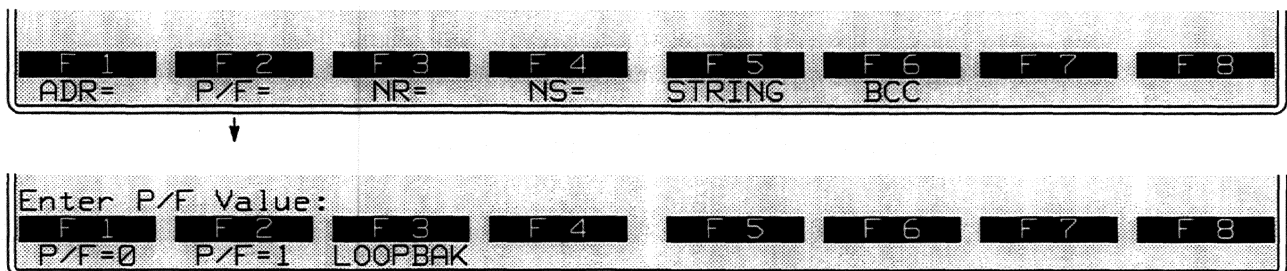

Figure 37-23 A P/F value is optional in all *SEND* entries.
6. *Poll/final bit*. The P/F-bit is an optional entry in all SEND actions. P/F values of 0, 1, or LOOPBAK are entered by the softkeys in Figure 37-23. If P/F= LOOPBACK, the bit will echo the last P/F bit received. (Looping the P/F-bit is appropriate for UAs and supervisory frames.) Default P/F values are given in Table 37-1.